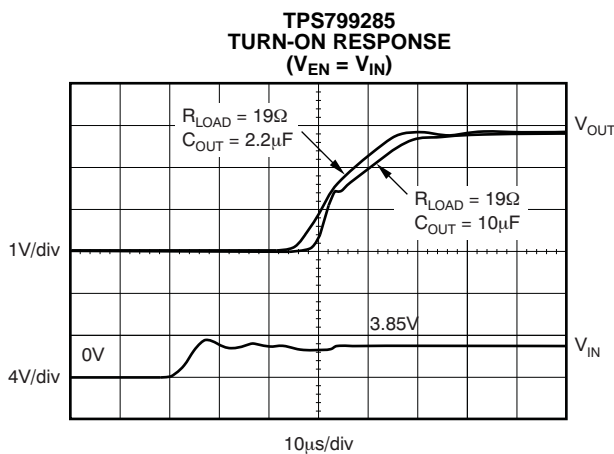

Figure 25.
Note that for fastest startup,  $V_{IN}$  should be applied first, then the enable pin (EN) driven high. If EN is tied to IN, startup will be somewhat slower. Refer to Figure 25 and Figure 26 in the *Typical Characteristics* section. The quick-start switch is closed for approximately  $135\mu\text{s}$ . To ensure that  $C_{NR}$  is fully charged during the quick-start time, a  $0.01\mu\text{F}$  or smaller capacitor should be used.